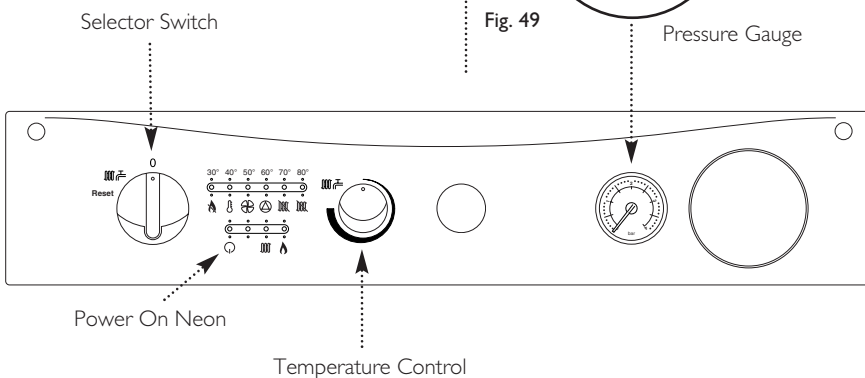

Fig. 50
2. Set the temperature control to maximum and the selector switch to the Off position (Fig. 50).
6. Turn the selector switch to the On Position (ON). The power On neon (ON) will illuminate (Fig. 50).